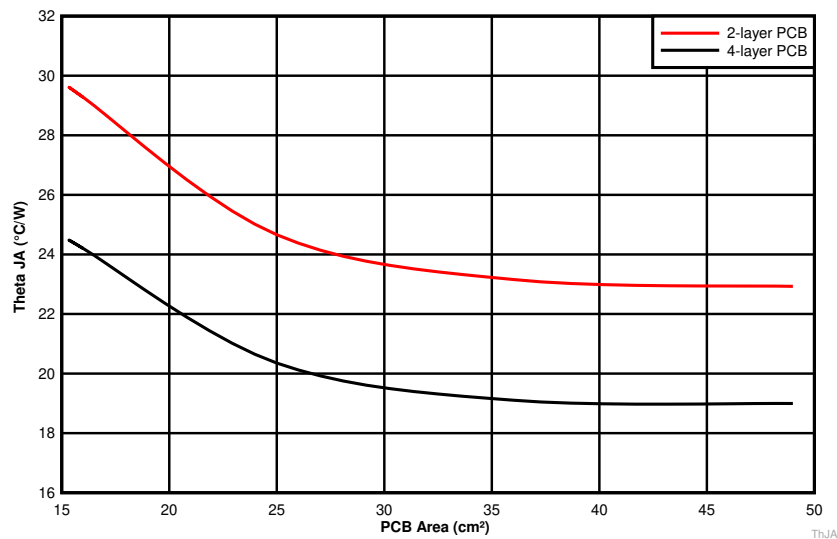

图 9-5.  $\theta_{JA}$  vs PCB Area
The amount of PCB copper effects the thermal performance of the device. 图 9-5 shows the effects of copper area on the junction-to-ambient thermal resistance ( $R_{\theta JA}$ ) of the LMZM33602. The junction-to-ambient thermal resistance is plotted for a 2-layer PCB and a 4-layer PCB with PCB area from 16 cm2 to 49 cm2.
3. Reference 图 9-5 to determine the minimum required PCB area for the application conditions.